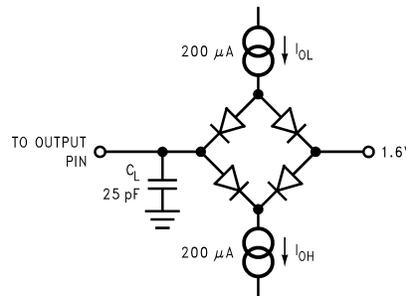

Figure 1. Timing Test Circuit
(1) All input signals are specified as t_r = t_f = 5 ns (10% to 90% V_{DD}) and timed from 1.6 V.
(2) Minimum quiet time required between bus relinquish and start of next conversion.
(3) Measured with the load circuit (Figure 1), and defined as the time taken by the output to cross 1 V.
- (4) Measured with the load circuit (Figure 1), and defined as the time taken by the output to cross 1 V or 2 V.
- (5) t_8 is derived from the time taken by the outputs to change by 0.5 V with the loading circuit (Figure 1). The measured number is then adjusted to remove the effects of charging or discharging the 25-pF capacitor. This means t_8 is the true bus relinquish time, independent of the bus loading.